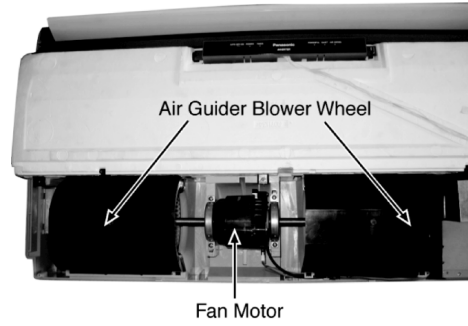

Fig. 5
- Releasing the connector Fan Motor (Fig. 5).
- Removing the Fan Motor supporter screws (Fig. 5).
- Removing the Blower Wheel bolts (Fig. 5).